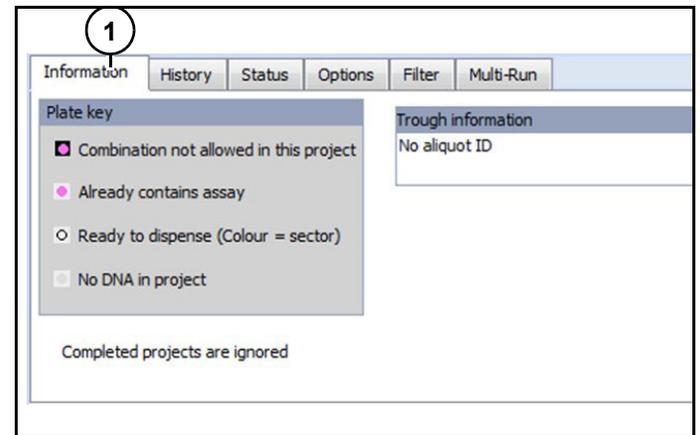

Figure 10
Displays information (1) (Figure 10) in Kraken interface.